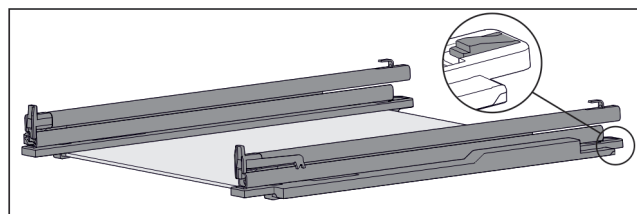

Fig. 128 Glass shelf with rails and retaining parts
- Press down retaining part at the rear (see *Fig. 128*) and at the same time push the rail back.